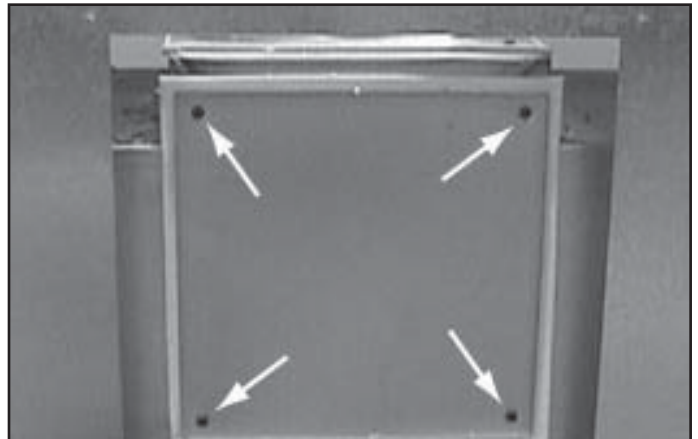

Figure 9.8 Outer Cover, Rear - Remove Plate
- Remove four screws holding outer cover plate to appliance back. See Figure 9.8. Remove outer cover.